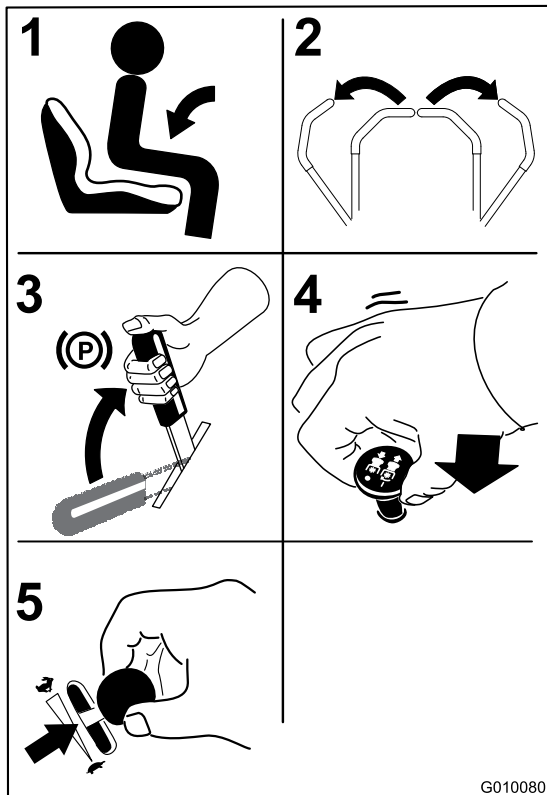

Figure 19
1. Sit down on the seat (Figure 19).
2. Move the motion controls outward to the neutral lock position (Figure 19).
4. Move the blade control switch (PTO) to the Off position (Figure 19).